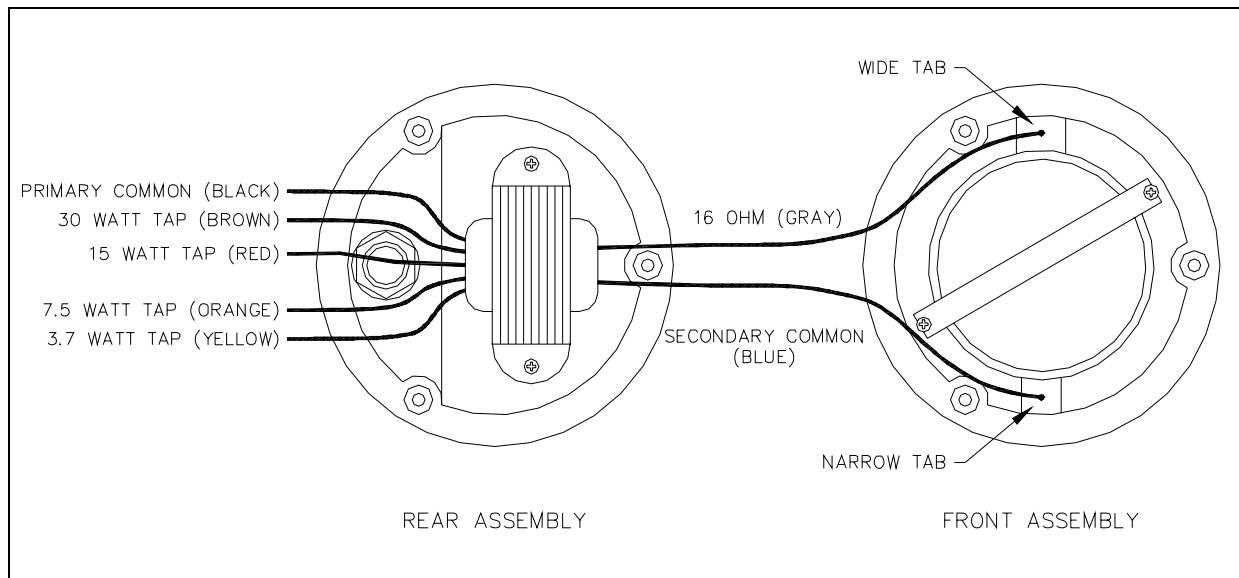

Figure 2. Driver Outline Diagram
1. Remove the three Phillips screws that hold the driver together, and pull the rear assembly away from the front assembly. See Figure 2. Use care to avoid damaging the gasket.
4. Choose the wire associated with the tap that will be used (3.7, 7.5, 15, or 30 watts – see Figure 2 for color codes). Strip both the selected tap wire and the primary common wire (black) if necessary.
10. Reconnect the secondary wires to the front assembly by snapping the connectors onto the posts. The blue wire must be connected to the post on the narrow tab and the gray wire must be connected to the post on the wide tab. See Figure 2.